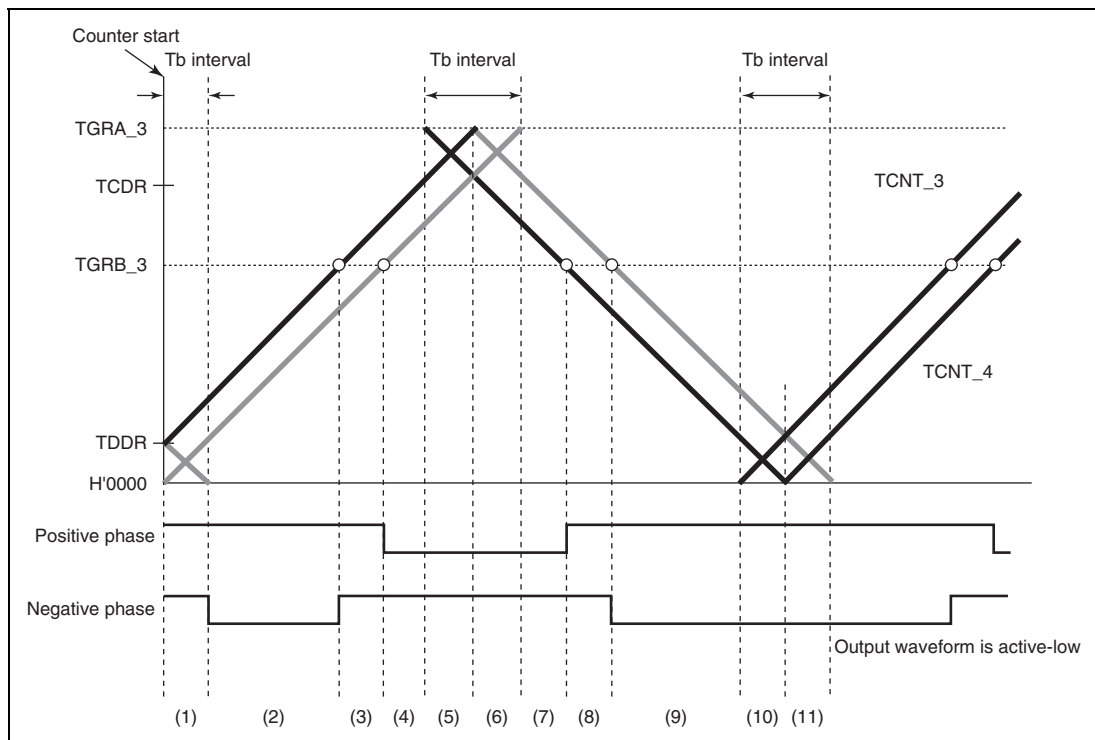

Figure 9.56 Timing for Synchronous Counter Clearing
Initial output suppression is applicable only when synchronous clearing occurs in the T_b interval at the trough as indicated by (10) or (11) in figure 9.56. When synchronous clearing occurs outside that interval, the initial value specified by the OLS bits in TOCR is output. Even in the T_b interval at the trough, if synchronous clearing occurs in the initial value output period (indicated by (1) in figure 9.56) immediately after the counters start operation, initial value output is not suppressed.
Figures 9.58 to 9.61 show examples of output waveform control in which the MTU2 operates in complementary PWM mode and synchronous counter clearing is generated while the WRE bit in TWCR is set to 1. In the examples shown in figures 9.58 to 9.61, synchronous counter clearing occurs at timing (3), (6), (8), and (11) shown in figure 9.56, respectively.
(Timing (6) in Figure 9.56; Bit WRE of TWCR in MTU2 is 1)**
(Timing (11) in Figure 9.56; Bit WRE of TWCR is 1)**